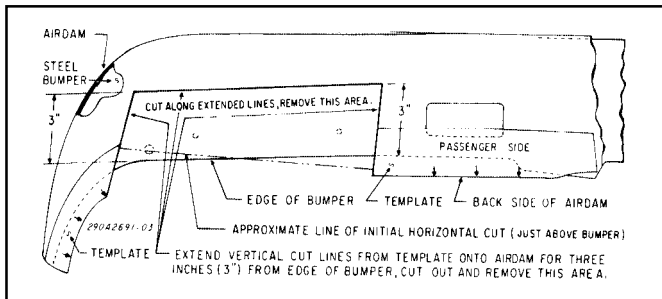

Figure 4. Cutting Air Dam.
4. See figure 4. Using the vertical cuts as a guide, mark a cut line on the air dam 3-inches from the rear edge of the bumper as shown. Cut and remove the air dam in the marked area.